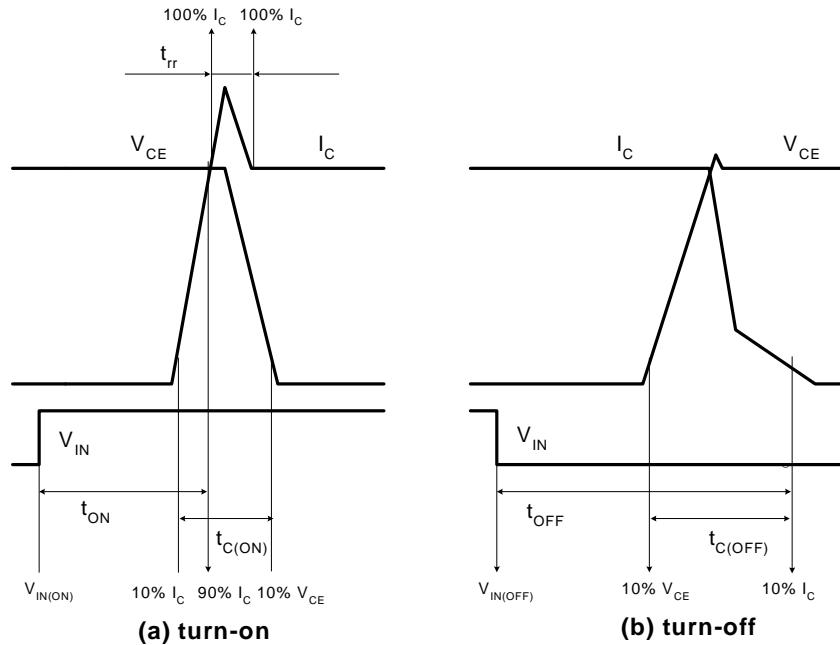

Figure 4. Switching Time Definition
3. t_{ON} and t_{OFF} include the propagation delay of the internal drive IC. $t_{C(\text{ON})}$ and $t_{C(\text{OFF})}$ are the switching time of IGBT itself under the given gate driving condition internally. For the detailed information, please see Figure 4.